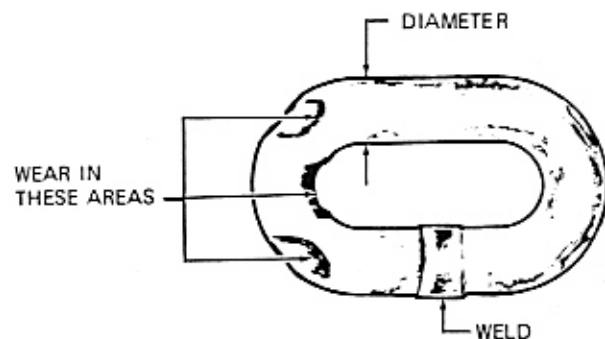

FIGURE 4-1 TYPICAL WEAR ON LINKS
b. Inspect each link for wear to the diameter of the link (see Figure 4-1). The nominal link diameter is 0.250 inch for chain on models RA-15, RA-15-2, or RA-20 and 0.312 inch for models RA-30 and above. If the diameter of any link of 0.250 chain is worn to less than 0.200, or the diameter of any link of 0.312 chain is worn to less than 0.275, the entire chain must be replaced.